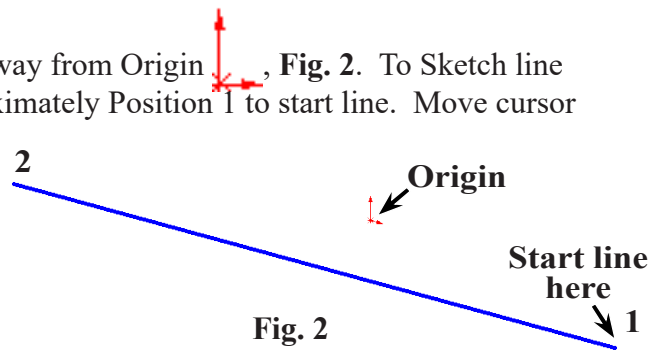

Fig. 2
Step 2. Click **Line**  (L) on the Sketch toolbar. The cursor should change to XY plane  indicating you are sketching in XY plane. If not, press Tab to switch sketch plane.
Step 3. Sketch a line from **right to left** on X axis away from Origin  , **Fig. 2**. To Sketch line on X axis, click away from Origin at approximately Position 1 to start line. Move cursor across sketch along X axis, when cursor